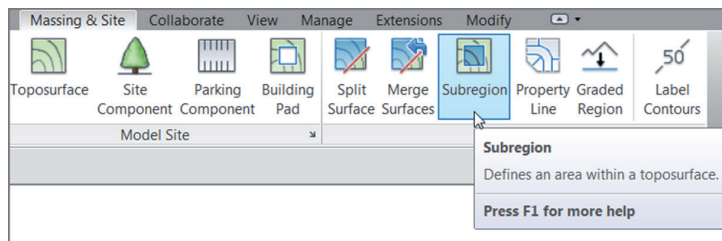

FIGURE BC3.11: The Subregion Button
3. On the Massing & Site tab, click the Subregion button as shown in Figure BC3.11.